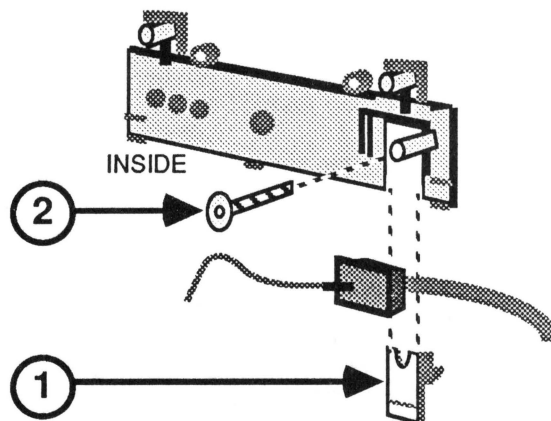

FIGURE 19
2. From the logic board replacement kit, select the appropriately colored rear panel (to match the unit you are repairing) and fit the panel over the AC power cord (Figure 19). Slide the matching small plastic holding piece under the cord, as shown (Figure 19, #1) until it fits securely under the power cord.
3. Replace the screw that holds the power cord in place (Figure 19, #2).